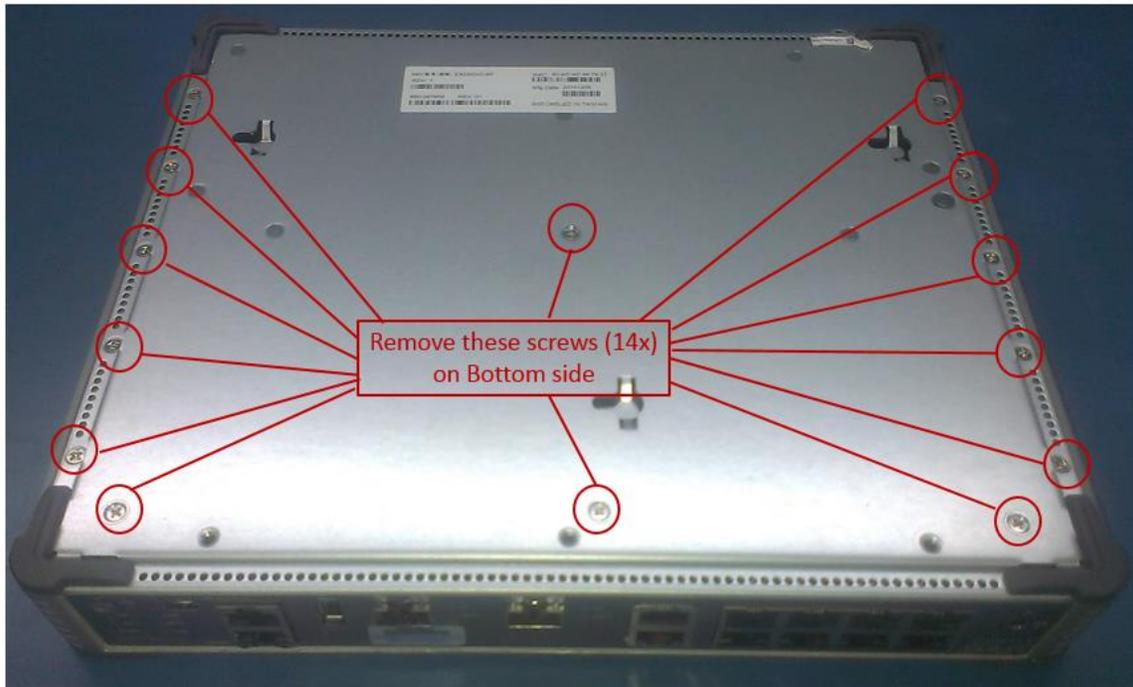

Figure 3-1: Bottom side screws
3. Remove fourteen(14x) screws from the bottom of the system (Figure 3-1)